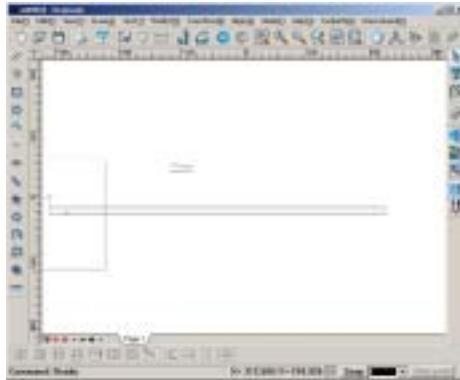

Fig. 6
- 1 . Draw two straight lines that are parallel to each other, and draw two curves that are symmetrical. (Fig. 6)